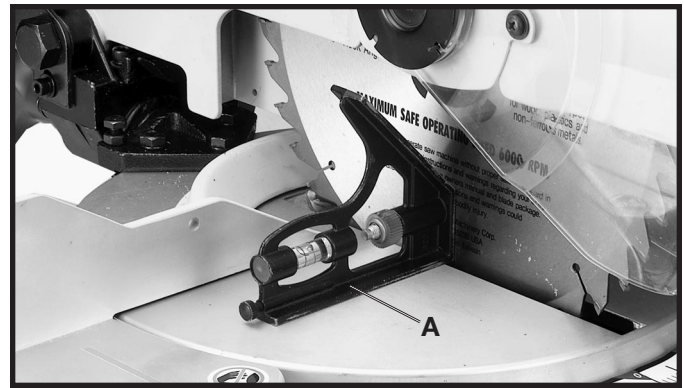

Fig. 26
2. Place one end of a square (A) Fig. 26 on the table and the other end against the blade. Check to see if the blade is 90 degrees to the table (Fig. 26).